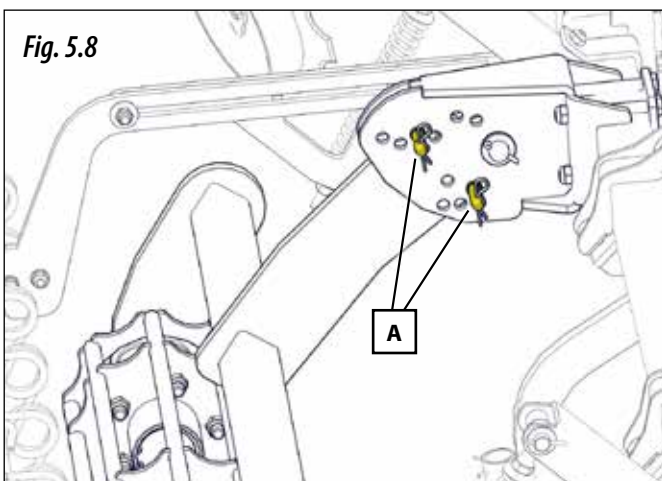

Fig. 5.8
- 2- Depending on the machine model, secure the COMPACTING ROLLERS by fitting the two bolts (A, Fig. 5.8).